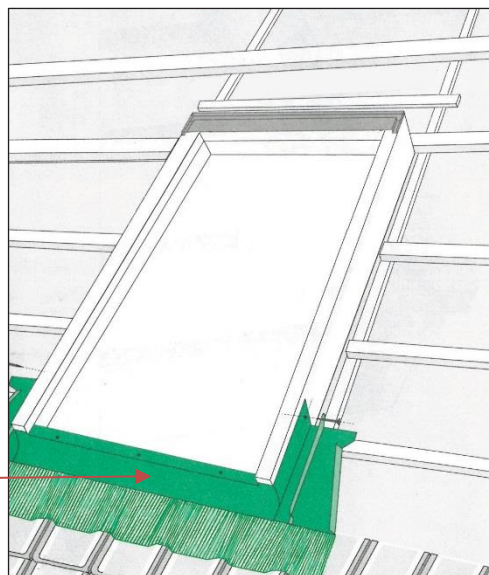

Fig 8
10) Position on the bottom flashing (1) on the roof surface. After eventual corrections in positioning the bottom flashing nail it to the frame side on its upper edge (Fig 8).
11) Put on the bottom flashing covering the bottom part of the frame (Fig 8) and screw it to the frame. Use only stainless-steel wood screws. Remove the paper strip protecting the Bitumous layer underneath the element. Press the lead apron to shape it and stick it to the roof surface. **Note: Please ensure there is a tight fit between the flashing to the horizontal timber frame.**